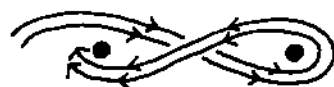

Figure 5. The warp is wound around two posts of a warping device in bouts. Double-yarn bouts are designated as d-bouts.
A contrast of light and dark colors should be planned for the pattern area. Borders are in a tubular plain weave in a third color, referred to as medium (M), and are wound as d-bouts (double-yarn bouts) or figure-eights on a warping device (figure 5).